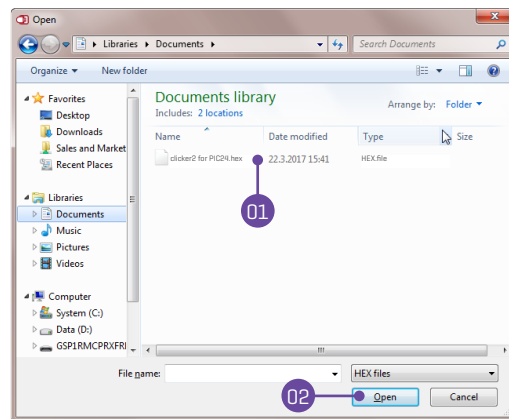

Figure 3-4: Selecting HEX
- 01** Click the Browse for HEX button and from a pop-up window [Figure 3.4] choose the .HEX file which will be uploaded to MCU memory.